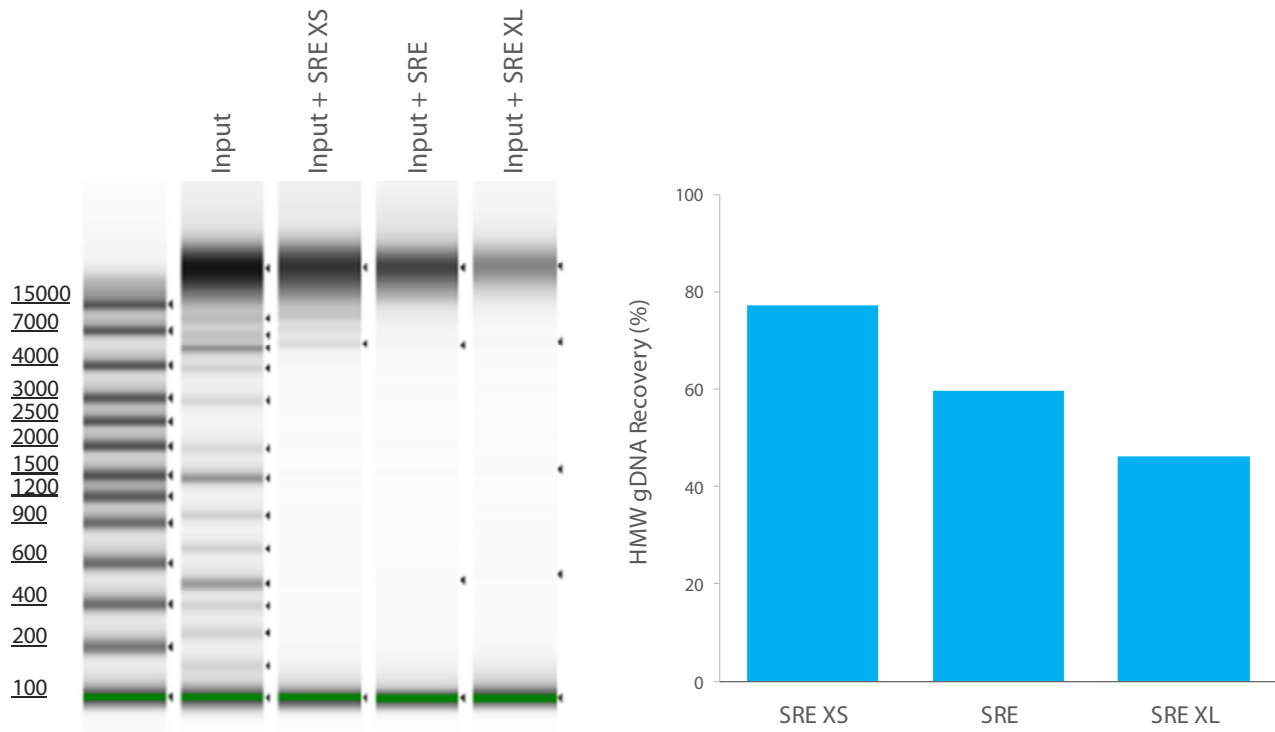

Figure 3. The sample from **Figure 1** was analyzed on Agilent TapeStation 4200. HMW gDNA recoveries were measured using the same input DNA without the ladder.
The overall recovery efficiency is highly dependent on the quality and concentration of the input DNA. The Short Read Eliminator XS Kit has the highest overall recoveries and is the most tolerant of sheared/fragmented DNA or low input concentrations. The Short Read Eliminator and Short Read Eliminator XL Kits require high quality HMW DNA. If the samples contain large amounts of fragmented DNA or if the DNA is not sufficiently HMW, the recovery efficiency will be lower than expected. **Figure 3** shows the expected recovery efficiency for Nanobind extracted HMW gDNA samples that were size selected using each of the Short Read Eliminator Kits.
4. **Centrifuge at 10,000 x g for 30 mins at room temperature (RT).**
5. **Carefully remove supernatant from tube without disturbing the DNA pellet. Place the pipette tip on the thumb lip side of the tube (see Figure 3).**
7. **Carefully remove wash solution from tube without disturbing the DNA pellet. Place the pipette tip on the thumb lip side of the tube (see Figure 3).**